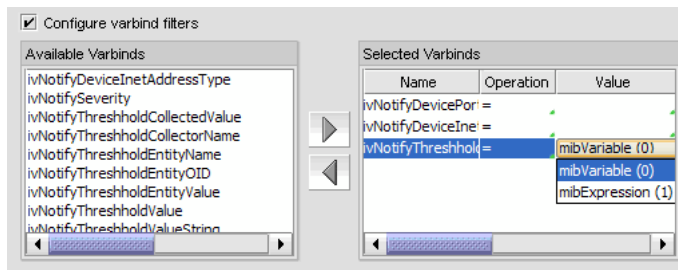

FIGURE 460 Available Varbinds and Selected Varbinds lists
The varbinds for the selected trap are listed in the **Available Varbinds** list, shown in Figure 460.
5. Enter the value of the varbind. The value you enter must conform to the data type required by the varbind. For example, if the varbind expects an integer and you enter a text string, your entry will be rejected. Alternatively, you can select values from drop-down lists, shown in Figure 460.